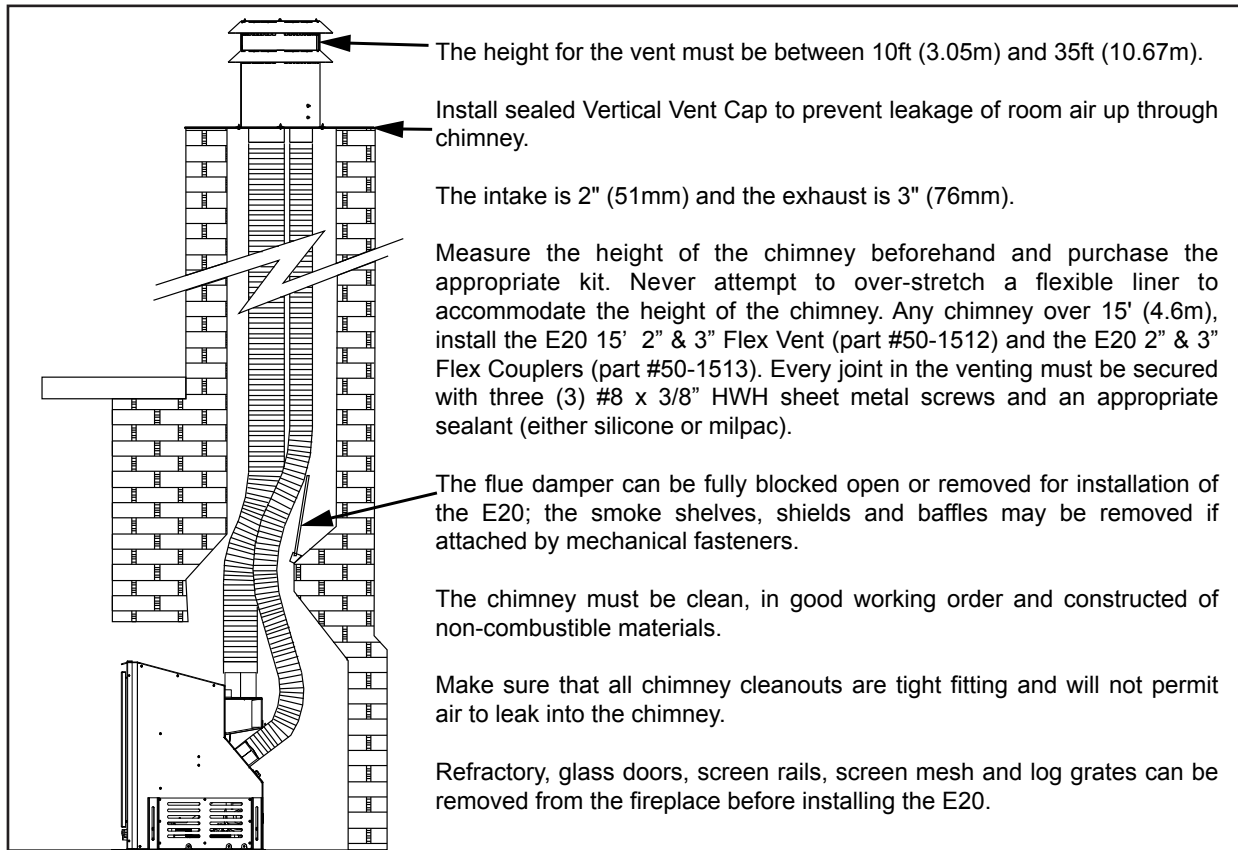

Figure 38: Installation of E20 DV
1. Plan your installation and clearances to combustibles. The E20 may be installed and vented into any solid fuel fireplace that has been installed in accordance with the National, Provincial/State and local building codes and has been constructed of non-combustible materials. Also refer to the INITIAL INSTALLATION - PREPARING YOUR E20 FOR INSTALLATION and CLEARANCES TO COMBUSTIBLES sections. Refer to Figure 38 throughout installation.